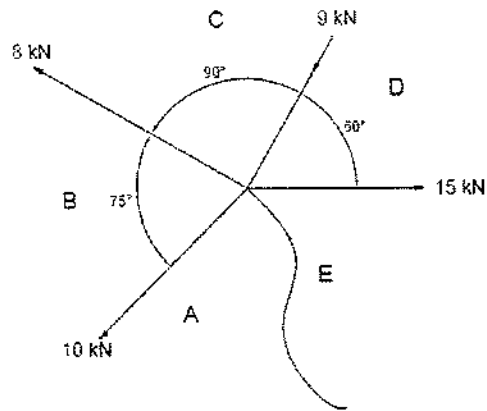

FIGURE 1
- 1.2 Graphically find the magnitude and direction of the resultant force of the system of coplanar concurrent forces shown in FIGURE 1 on the attached DIAGRAM SHEET 1. (10)